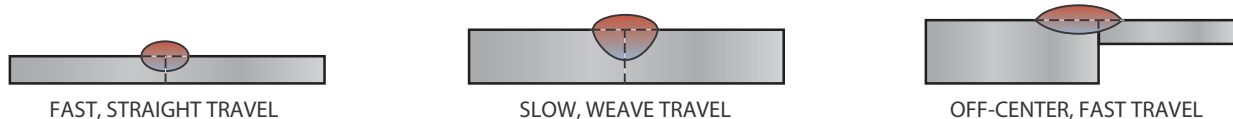

FIGURE 25-4 Controlling weld bead size by adjusting welding parameters. © Cengage Learning 2012
The most commonly used manual arc (MA) welding process is shielded metal arc welding (SMAW). The flexibility you have in performing the weld makes this process one of the most versatile. By changing the manipulation, rate of travel, or joint tracking, you can make an acceptable weld on a variety of material thicknesses, Figure 25-4.